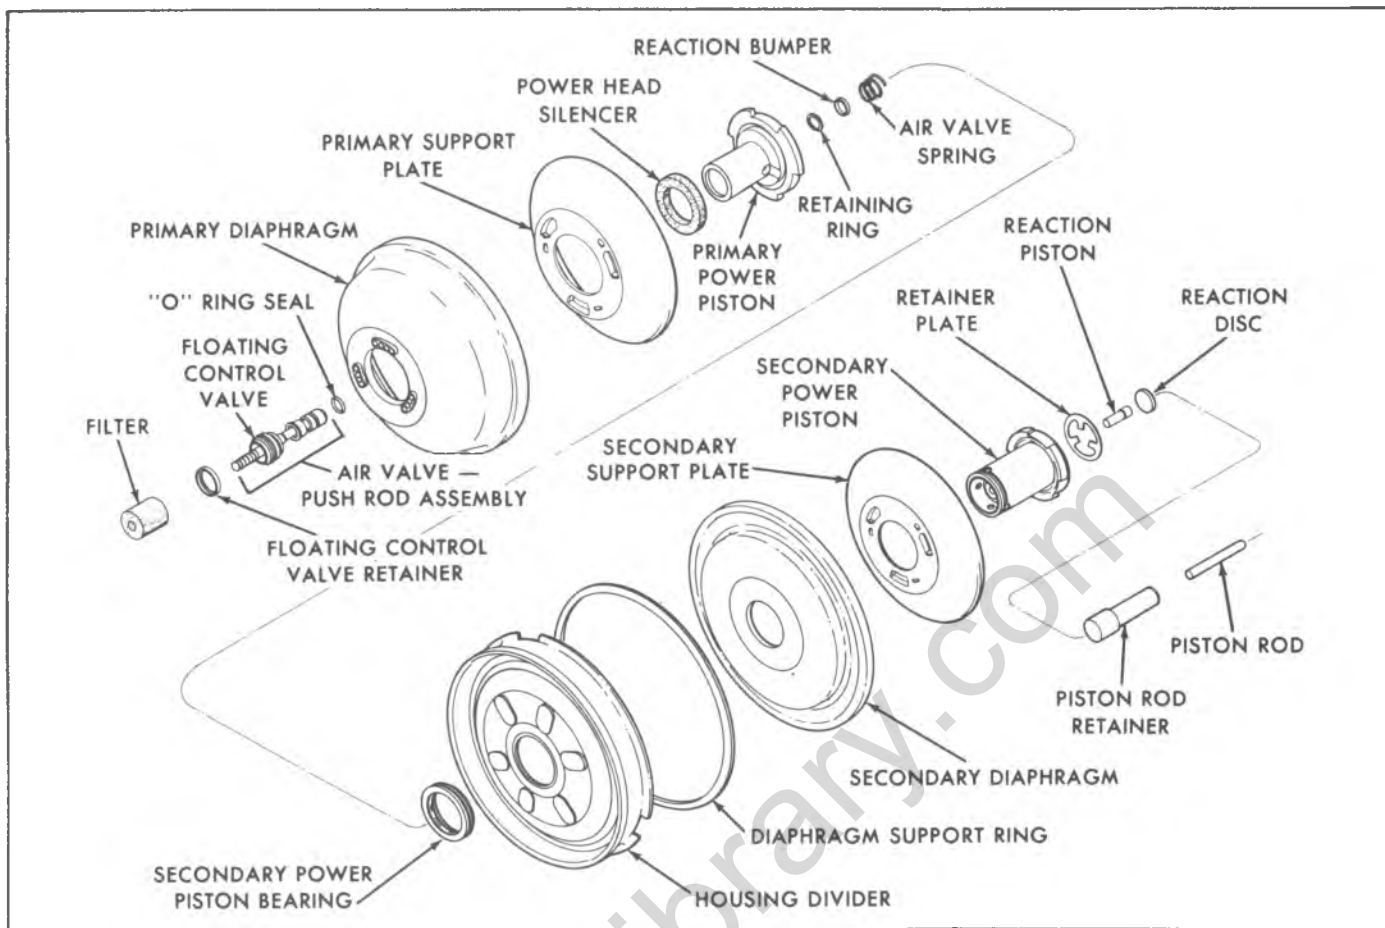

Fig. 3B--Power Piston Group
- Lift the bead on the O.D. of the secondary diaphragm and remove the diaphragm support ring (fig. 3B).